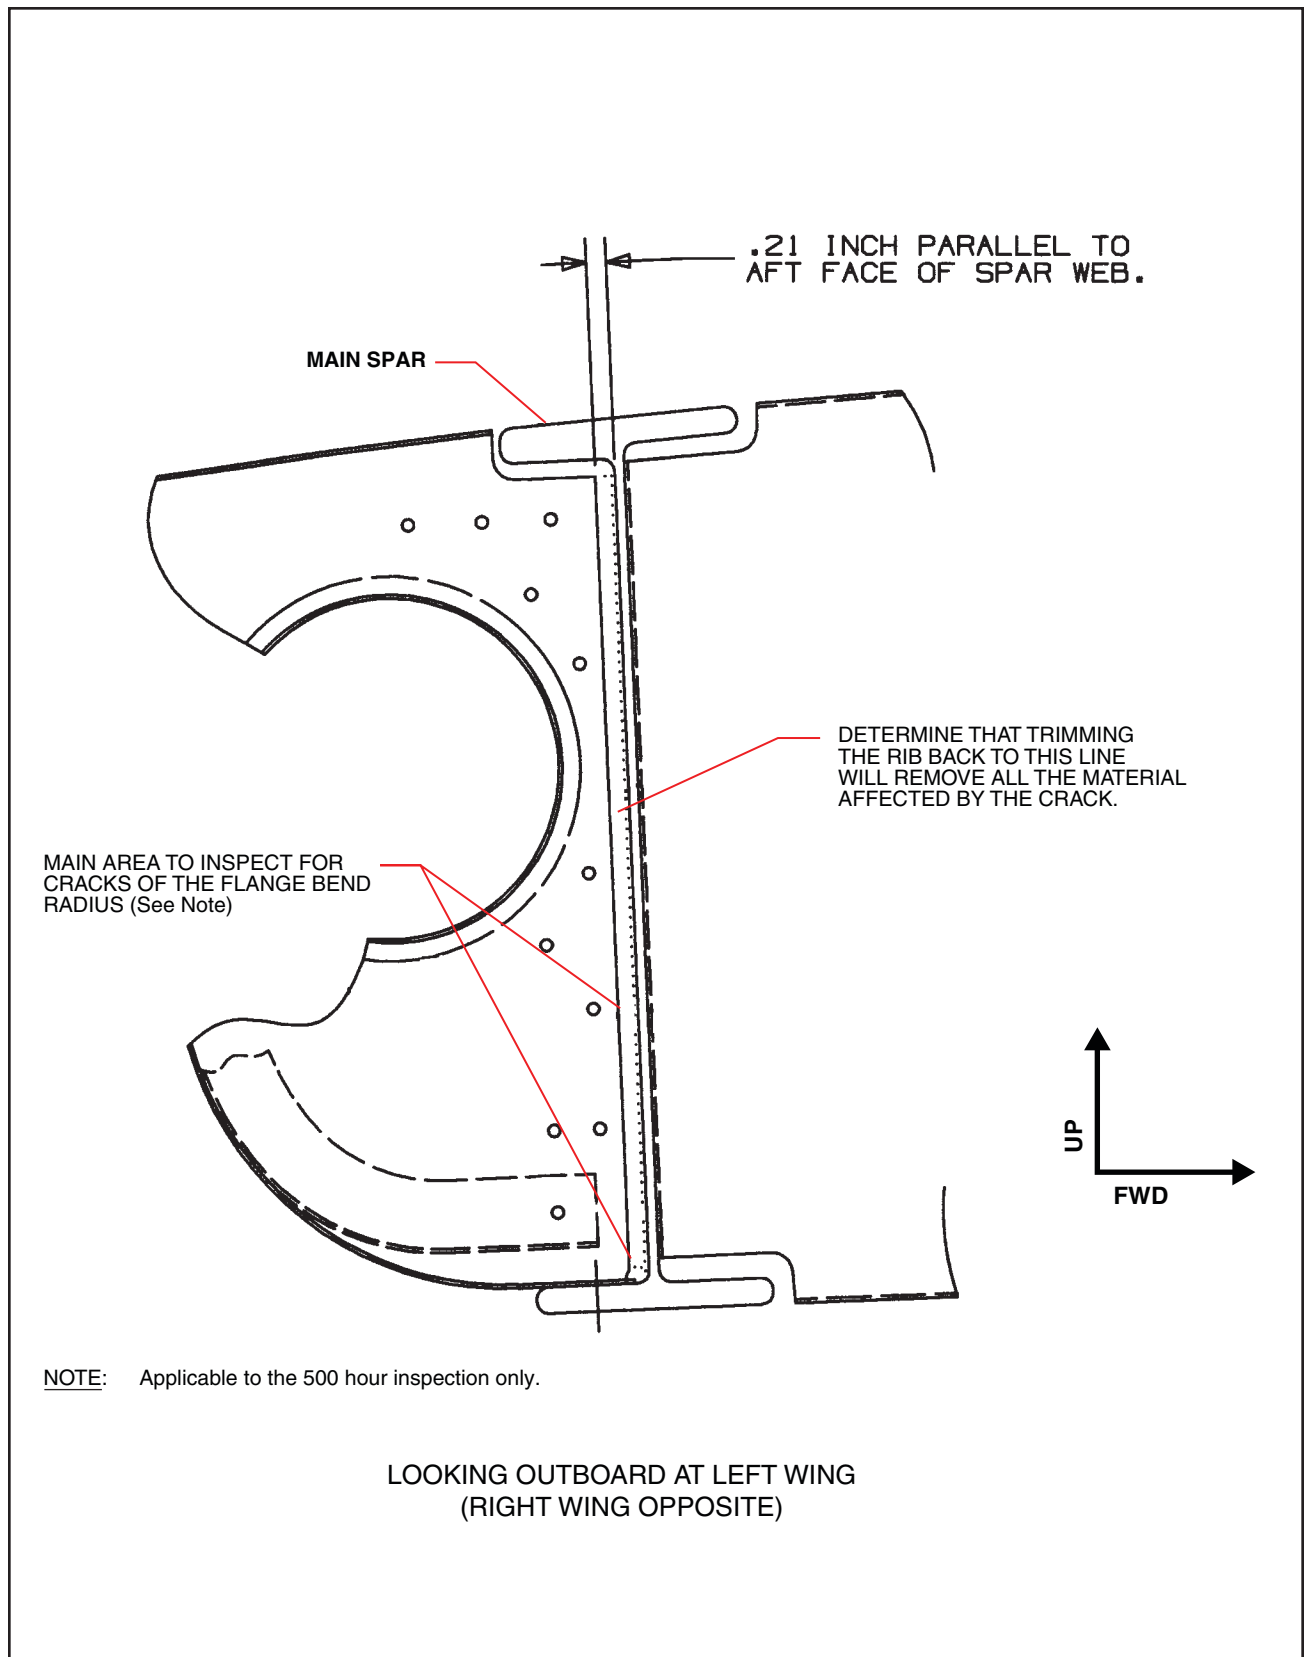

Figure 3-6
The left and right rib assemblies in PA-28R-180/200's, aft of the main spar at W.S. 49.25 can, under certain conditions, crack. The cracking is typically observed vertically along the bend radius of the flange common to the main spar and the main landing gear side brace attach fitting (see Figure 3-6). Accordingly, in PA-28R-180/200's only, perform the following inspections at the intervals indicated:
- 1) Inspect the rib assembly (LH and RH) for evidence of cracks for evidence of cracks in the bend radius of the flange common to the main spar web (as shown in Figure 3-6), except the inspection shall be limited to a visual examination of the exposed (upper half) portion of the flange bend radius. Removal of the main landing gear side brace is not required at the 100 hour inspection interval.
- a) Remove the Main Landing Gear Side Brace, by removing the five (5) bolts that fasten it to the wing structure. Retain hardware for reassembly.
- b) Inspect the Rib Assembly for evidence of cracks in the bend radius of the flange common to the Main Spar Web (as shown in Figure 3-6), using dye penetrant inspection techniques.
- 3) If a crack is detected, identify the path of the propagation, and determine if trimming, as shown in Figure 3-6, will remove all the material affected by the crack.